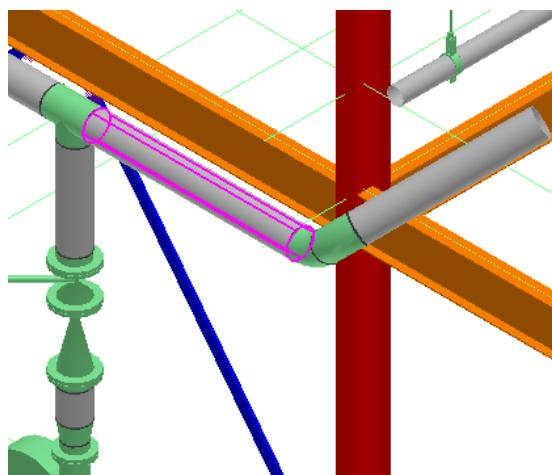

Figure 61: Selected Pipe.
5. Select the pipe, as shown in Figure 61.